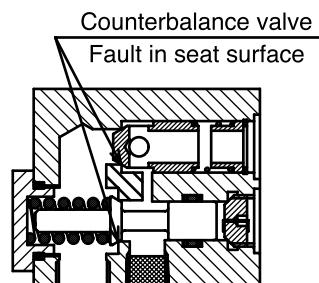

Fig3
- ④ Remove the retraction hose to check if oil overflows continuously out of the cylinder port of retraction side. At the same time, also check that which boom section sinks how far to grasp condition of booms as a whole. If no oil flows out of the port of retraction side, the cylinder is normal.
- ⑤ Next, remove the extension hose, and if oil overflows continuously out of counter-balance valve port of extension side, there may be faulty on the seat surface of counter-balance valve (refer to Fig. 3). In addition, check how far boom3 sinks simultaneously.
there may be faulty on the seat surface of counter-balance valve (refer to Fig. 3).